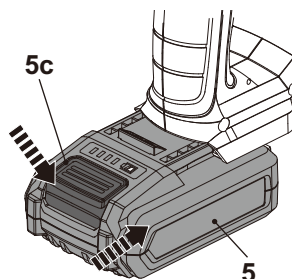

Fig. 6
2. Press the release button (5c) and slide the battery pack (5) from the battery docking port (5) (Fig. 6).